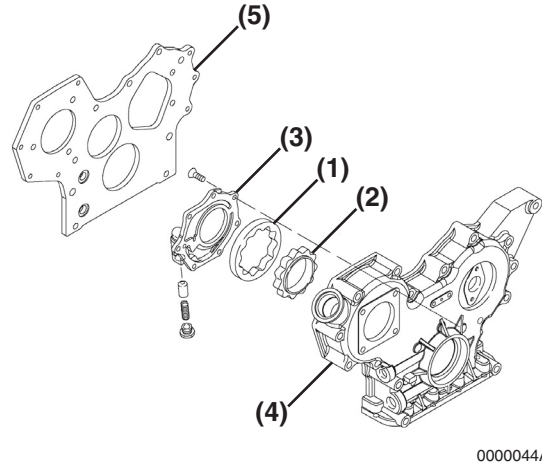

Figure 9-12
1. Lubricate the outer rotor (**Figure 9-12, (1)**), inner rotor (**Figure 9-12, (2)**) and pump bore in the gear case cover with clean engine oil.
5. Reinstall the oil pump cover (**Figure 9-12, (3)**). Apply LOCTITE 290 (green) or LOCTITE 262 (red) to the oil pump cover screws. (Follow LOCTITE package instructions.) Tighten the pump cover screws to 61 ± 13 in·lb (6.9 ± 1.5 N·m, 0.7 ± 0.15 kgf·m).